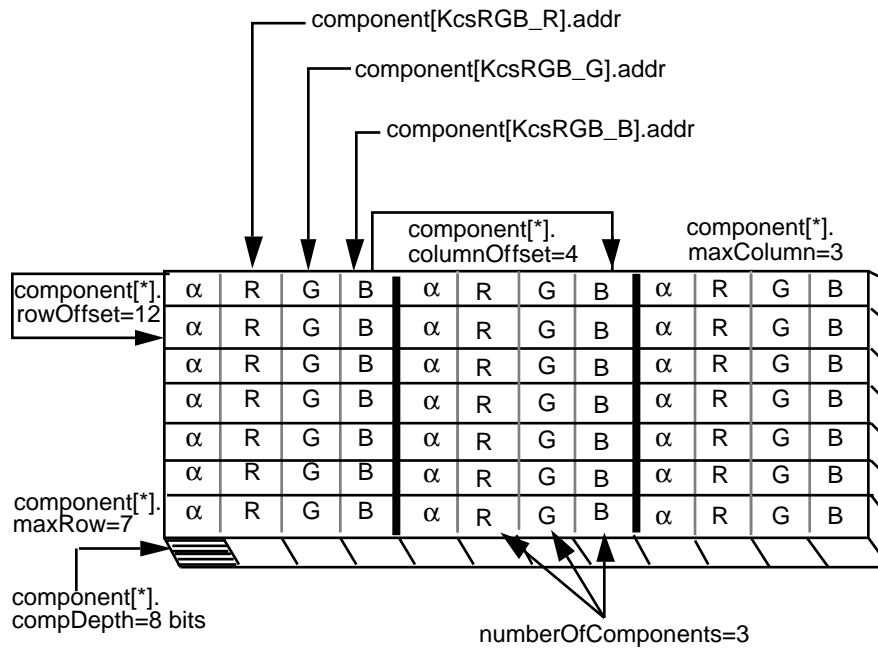

Figure 3-1 24-bit Color Component-Interleaved Data for RGB Pixel Image
- *Component-interleaved* data—color components of a pixel (for example, the red, green, and blue channels of an RGB image) are stored in consecutive memory addresses. (This is also called pixel-interleaved data.) See Figure 3-1 for a detailed diagram of this pixel layout.
Your application can use a pixel layout structure to define any rectangular region of a larger image. Code Example 3-4 and Figure 3-1 illustrate the component-interleaved, 3-by-7 pixel layout supported in the API.
Figure 3-1 illustrates the component-interleaved, 3-by-7 layout.